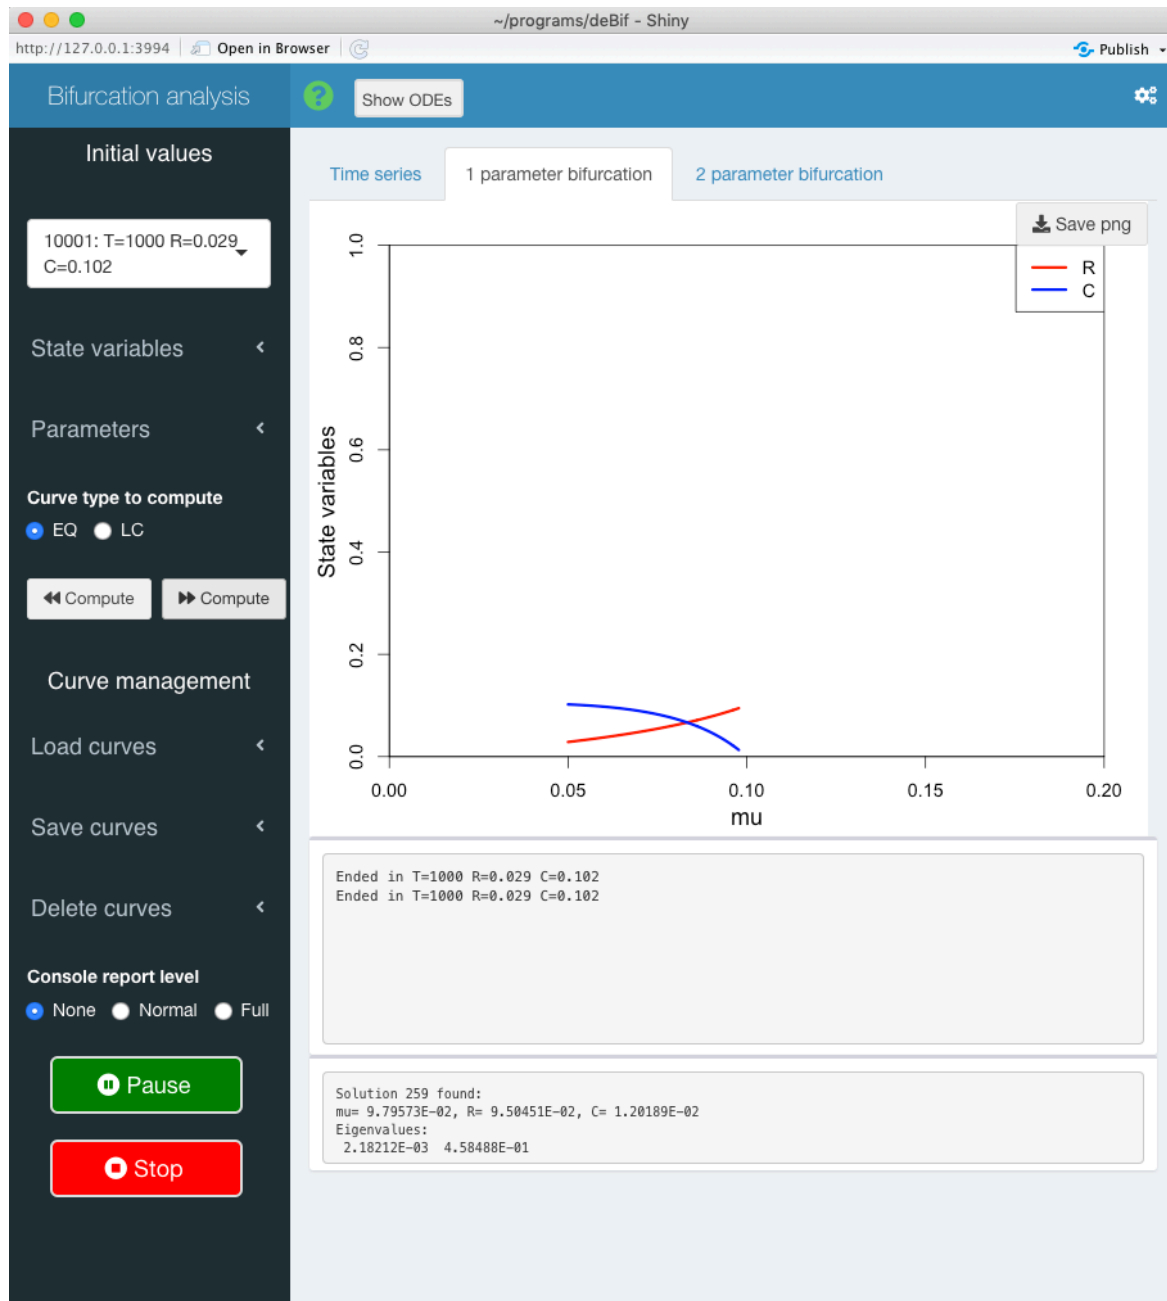

Figure 15: The 'bifurcation()' application while it is busy computing an equilibrium curve
Computations are started by clicking either the <<Compute or the >>Compute, which will start to compute the equilibrium curve originating from the initial point in the direction of lower and higher values of the bifurcation parameter, respectively. During the computation of a curve a Pause and Stop button are displayed in the left sidebar (see Figure 15) with which the computation can be temporarily halted or stopped altogether. The progress window at the very bottom of the tab sheet 1 parameter bifurcation reports on the solutions that are found and, importantly, also reports on the eigenvalues that characterize the dynamics in the neighborhood of the equilibrium. Inspection of these eigenvalues allows for checking whether or not the computed steady states are stable or unstable.
Computations of equilibrium curves will halt when the maximum number of solution points along the curve has been reached or when the values of the state variables in the equilibrium point are reaching values outside the range of values currently shown on the x - and y -axis. The default number of solution points along a curve is by default equal to 500, but can be changed (see section 3.2.3). Figure 16 shows the completed equilibrium curve, of which the initial part was already shown in Figure 15. This complete equilibrium curve has been constructed by 1) first starting the continuation of this curve to lower values of the bifurcation parameter μ ; 2) subsequently continuing this curve to higher values of the bifurcation parameter μ ; and finally, 3) Selecting the final solution point of the latter curve (point number 501) as initial point for the next calculation and computing once again forward to higher values of the bifurcation parameter. As Figure 16 shows two bifurcation points are detected during these computations: a Hopf bifurcation point (HP) at a value of the bifurcation parameter around 0.03 and a trans-critical bifurcation or branching point (BP) at a value of the bifurcation parameter around 0.10. Figure 16 also shows that the curve section to the left of the HP is plotted with a short-dashed line. This indicates that the equilibrium points on that section of the curve are unstable, that is, the eigenvalues characterizing the dynamics in the neighborhood of the equilibrium have a positive real part.